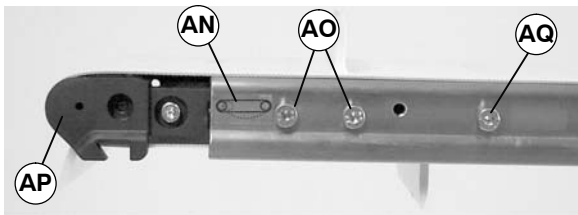

Figure 22
- Retract idler spindle assembly (AP of Figure 22) by pushing in on it or by turning M6 pinion screw (AQ of Figures 22 and 23) clockwise.
- Retract idler spindle assembly (AP of Figure 22) by pushing it in or by turning M6 pinion screw (AQ of Figures 22 and 23) clockwise.
5. Retract idler spindle assembly (AP of Figure 22) by pushing it in or by turning M6 pinion screw (AQ of Figures 22 and 23) clockwise.